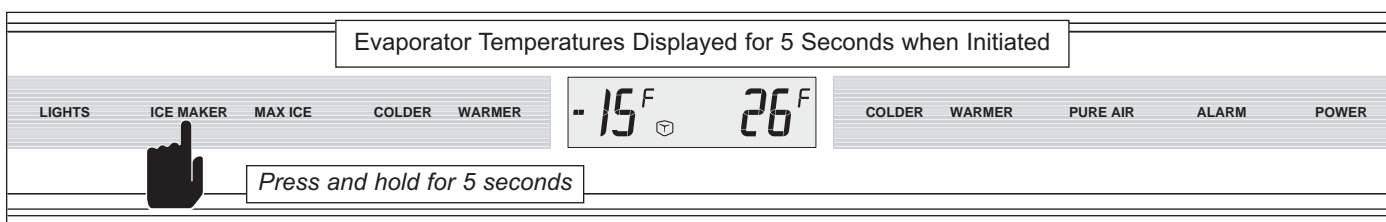
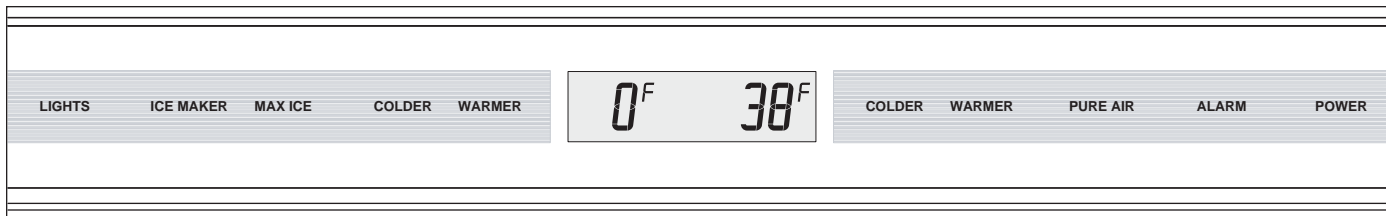

Figure 3-28. Initiate Manual Freezer Evaporator Defrost - Press and Hold ICE MAKER Key for 5 Seconds
Figure 3-29. Compartment Temperatures Displayed 5 Seconds after Manual Defrost is Initiated
To initiate manual freezer evaporator defrost the unit must be ON, then press and hold the ICE MAKER key for five (5) seconds, at this time the freezer evaporator temperature will be displayed at left in the LCD with the refrigerator evaporator temperature displayed at right for five (5) seconds (See Figure 3-28), then compartment temperatures will be displayed (See Figure 3-29).